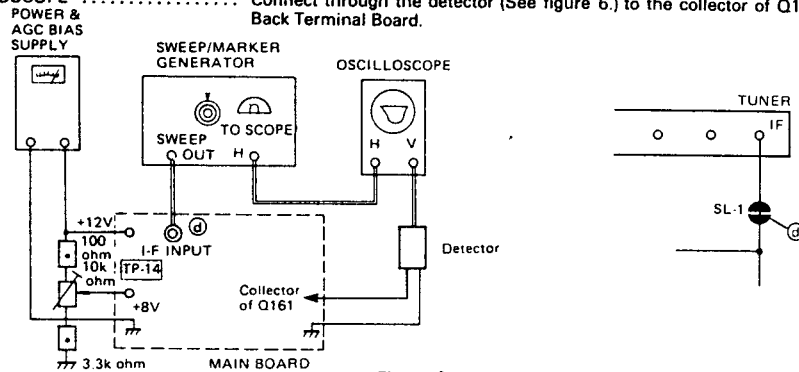

Figure 4.
**GENERAL** ..... Refer to Figure 4 for the equipment connection.
1. Disconnect the solder link SL-1 (see Figure 4) on the foil side of the Back Terminal Board.
- SWEEP/MARKER GENERATOR** ..... Connect to the point ④ as shown in Figure 4 on the Back Terminal Board.